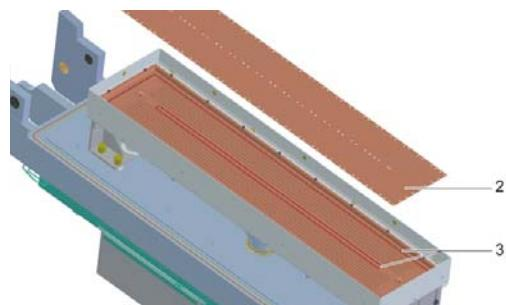

Fig. 8-3 Remove the cooling membrane
- 3 Carefully remove the cooling membrane (2), see Fig. 8-3, 250.
- 4 Carefully remove the O-rings (3) from the sealing grooves.